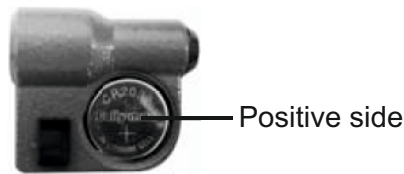

fig. 2
- » Insert the CR2032 battery into the battery compartment, the positive side of the battery (+) should face out (fig. 2).